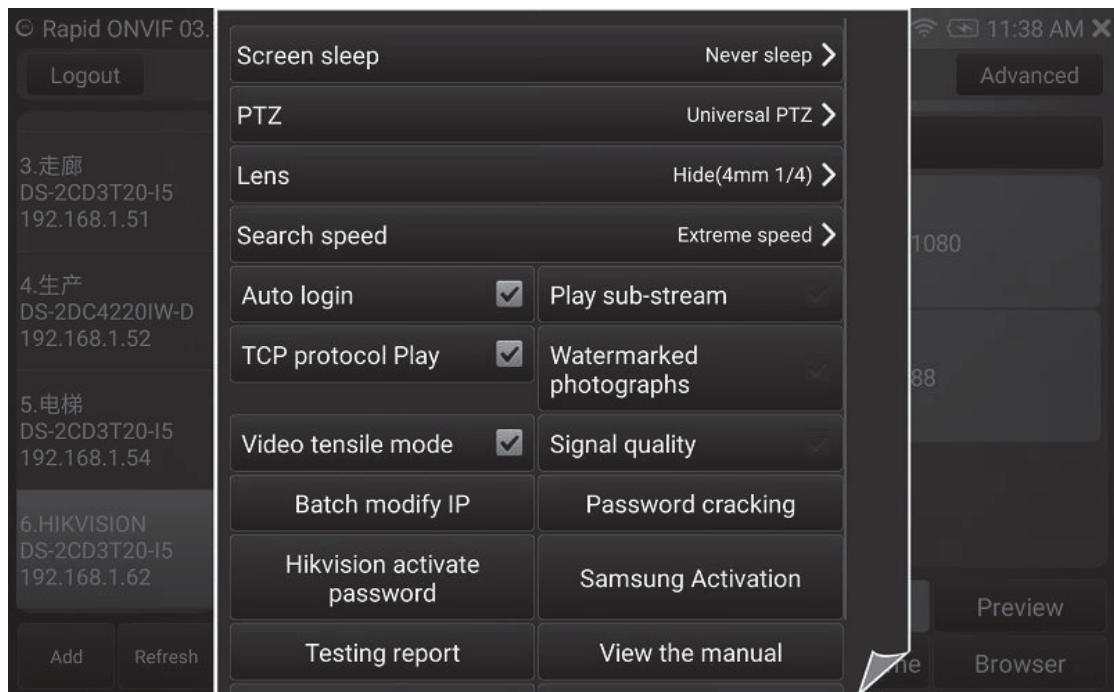

Figure 24
- 10) Advanced settings, you can set Auto-login, Play sub-stream, Watermarked photographs, Video tensile, Lens, etc, as shown in Figure24